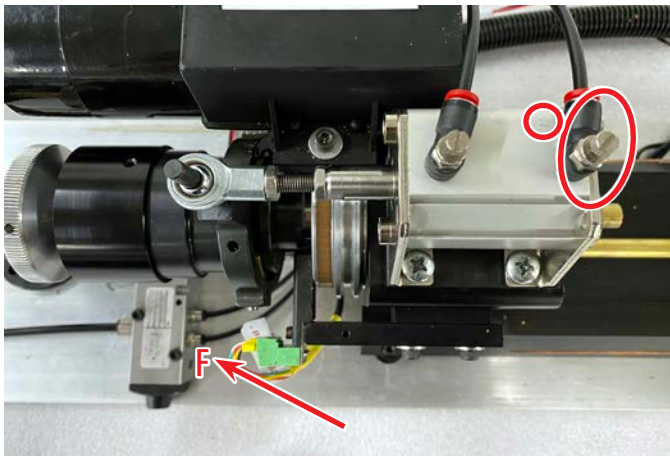

FIGURE 36
- D. Connect the second 5/32" air line from the outgoing control valve marked “F” in the picture to the flow control with the (N) stamp on the air cylinder (see Figure 36).